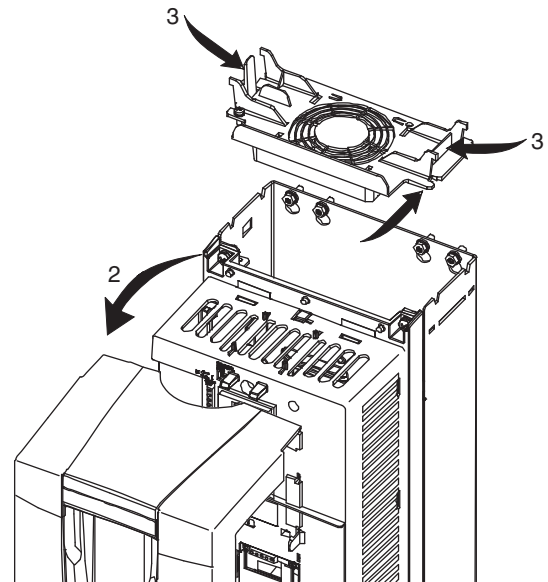

Fig. 38 — Remove Top Cover on ACH550 VFD
3. Press together the retaining clips on the top cover and lift (see Fig. 38).